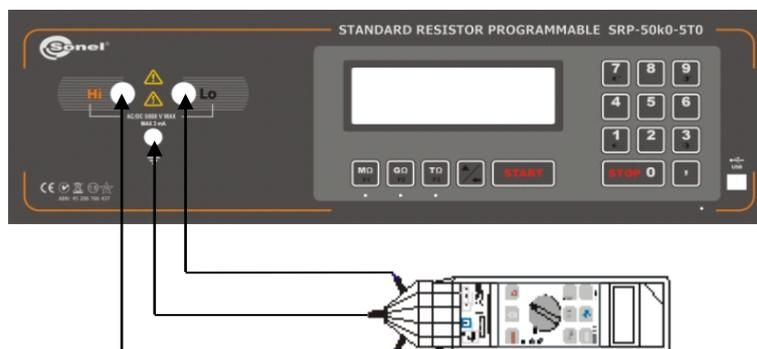
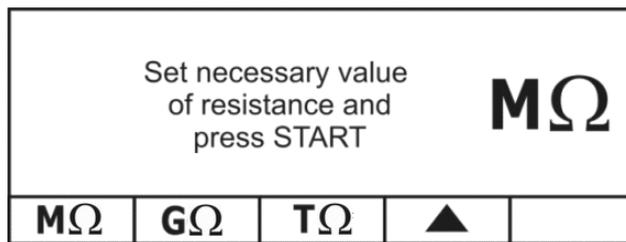

Figure 3 Connecting the meter to the calibrator
Figure 4 Calibrator display after turning on
- ③ Connect the tested meter to the measuring circuit (see Figure 3). The calibrator is in standby mode, no resistance values are set (see Figure 4).